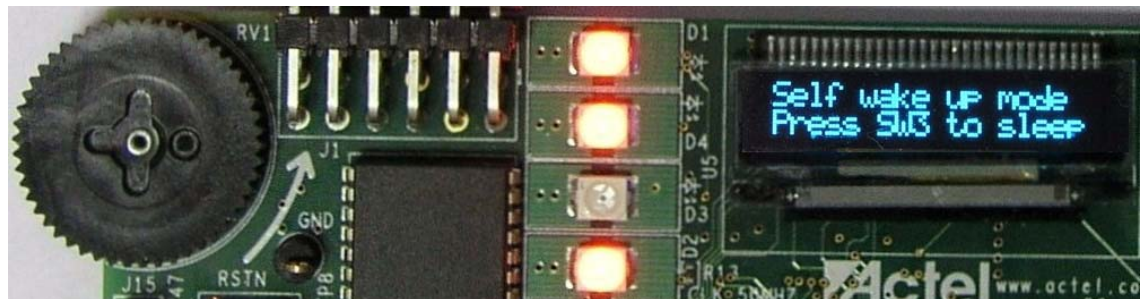

Figure 2-16 · Self Wake Up Mode – Sleep Mode
- Press SW2 to enter Self wake up mode. See Figure 2-16.